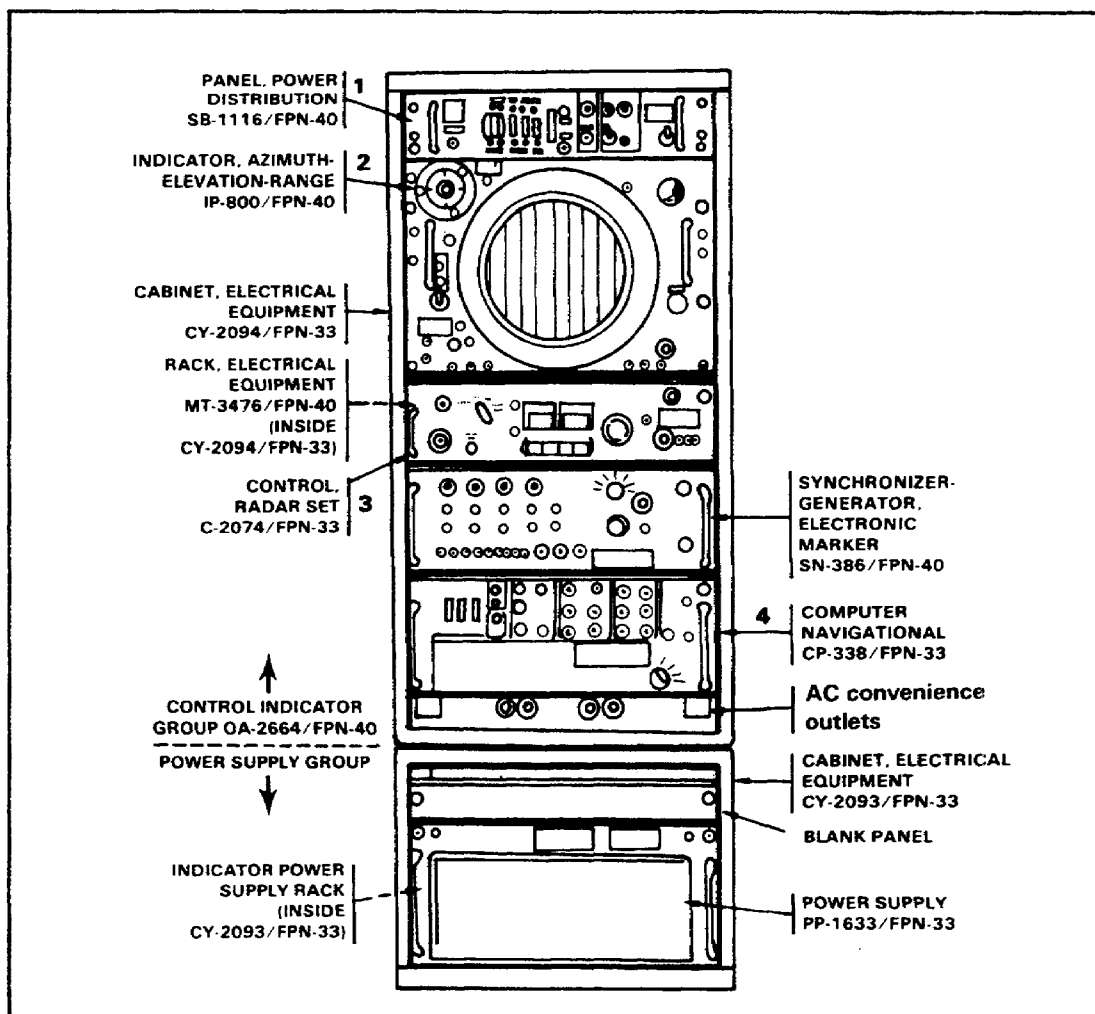

Figure 3. Control indicator group OA-2664/FPN-40.
b. Locate the following components on control-indicator group OA-2664/FPN-40. (See Figure 3.)
- (1) Panel power distribution SB-1116/FPN-40.
- (2) Indicator azimuth elevation range IP-800/FPN-40.
- (3) Control radar C-2074/FPN-33.
- (4) Synchronizer-generator, electronic-marker SN-386/FPN-40.
- (5) AC convenience outlets.
f. Measure the AC line voltage at the AC convenience outlets and record the voltage value. (See Figure 3.)